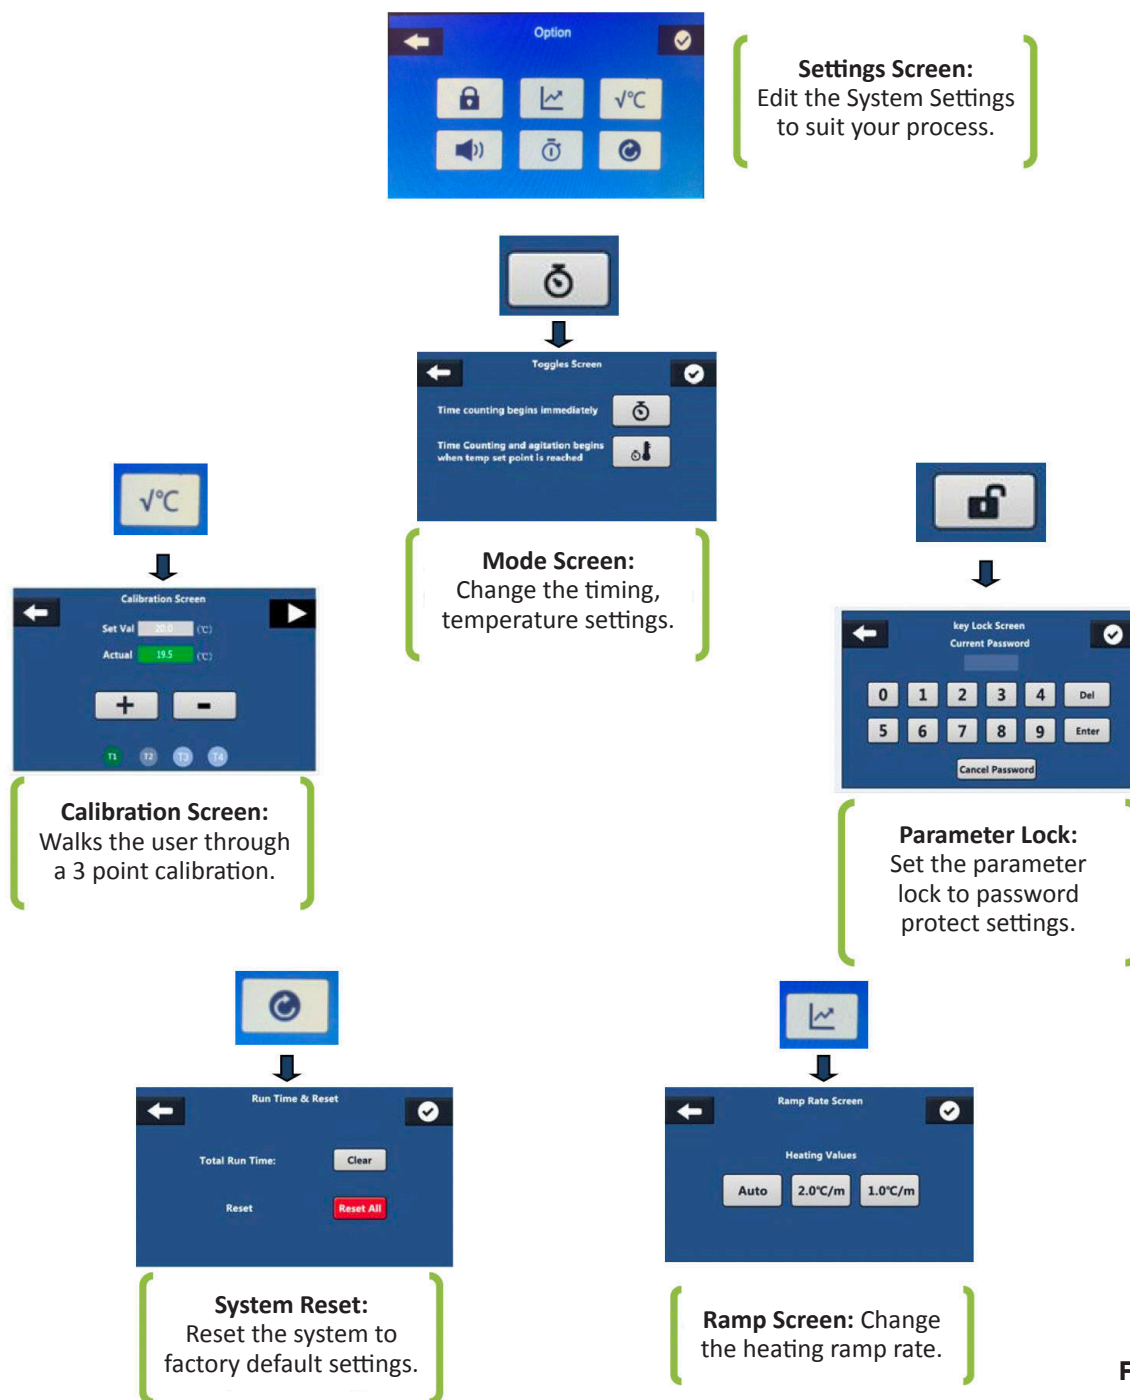

FIGURE 2
4.2 Options Screen Navigation (Figure 2) – Navigation and Screen Overviews